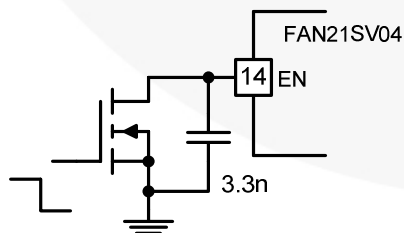

Figure 30. Enabling with External Control
FAN21SV04 has an internal pull-up to the enable (EN) pin so that the IC is enabled once V_{IN_Reg} exceeds the UVLO threshold. Connecting a small capacitor across EN and AGND delays the rate of voltage rise on the EN pin. The EN pin also serves for the restart whenever a fault occurs (refer to the *Auto-Restart* section). If the regulator is enabled externally, the external EN signal should go HIGH only after $5V_Reg$ is established. For applications where such sequencing is required, FAN21SV04 can be enabled (after the V_{CC} comes up) with external control, as shown in Figure 30.